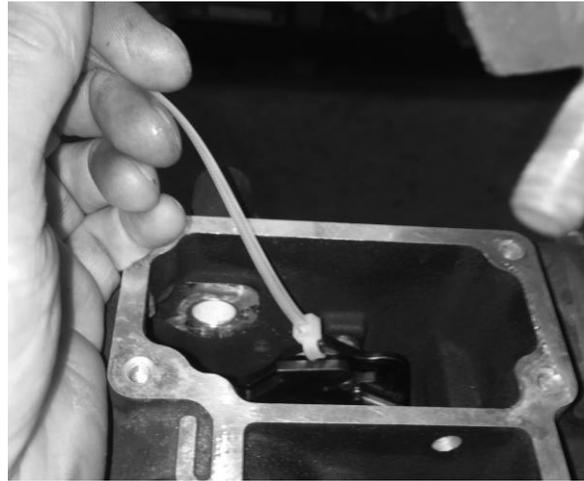

FIGURE 28 | LEAVE THE ZIP TIE ON THE SHIFTER PAWL UNTIL AFTER THE GEARSET IS INSTALLED AND THE BOLTS ARE TORQUED
1. Install the GrudgeBox shifter pawl along with the new seal, washer, and 7/16" retaining ring just like a stock shifter pawl is installed. Do not remove the zip tie because it is placed on the pawl to keep the active plate retracted during gearset installation into the case; see figure 28.